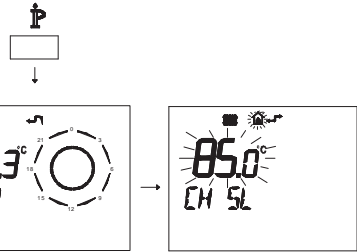

Fig. 7.22
- Press button P for more than 3 seconds to enter in *INFO* (Fig. 7.22) mode.